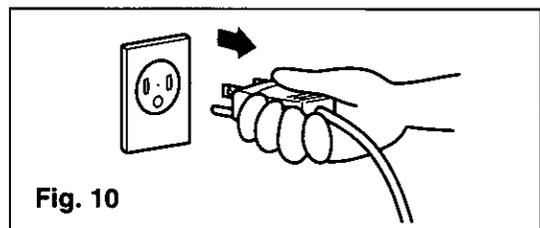

Fig. 10
10. If unit is not operated for an extended period of time, remove the plug from the outlet. (Fig. 10)